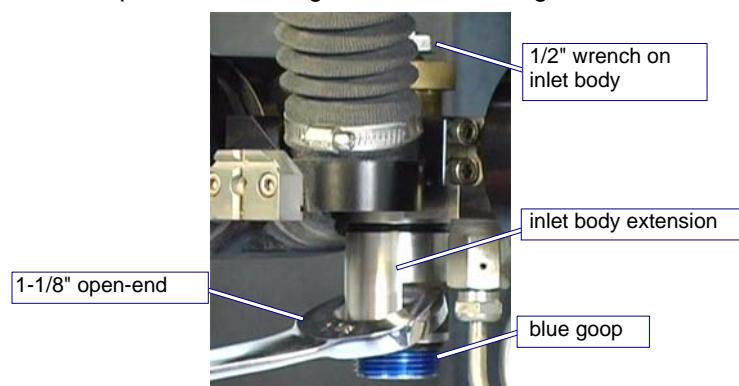

Figure 6-83: Tightening the Inlet Body Extension to the Inlet Body
6. Slowly screw the **Inlet body extension** onto the **inlet body** and hand-tighten (Figure 6-83).
8. Using a **1-1/8" open-end wrench** placed on the **inlet body extension**, tighten the right-hand threaded Inlet body extension to the **inlet body** using both wrenches (Figure 6-83).